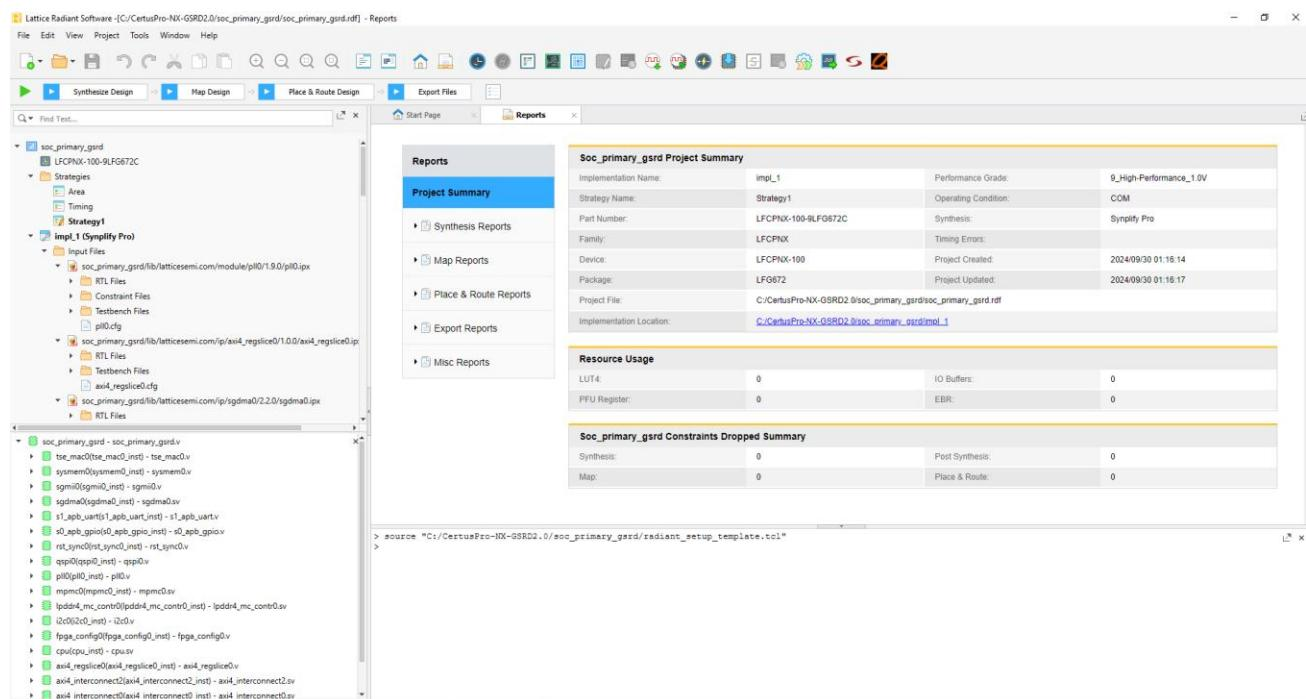

Figure 8.48. Lattice Radiant 2024.1 Window
2. The Radiant window of your project is launched as shown in Figure 8.48.